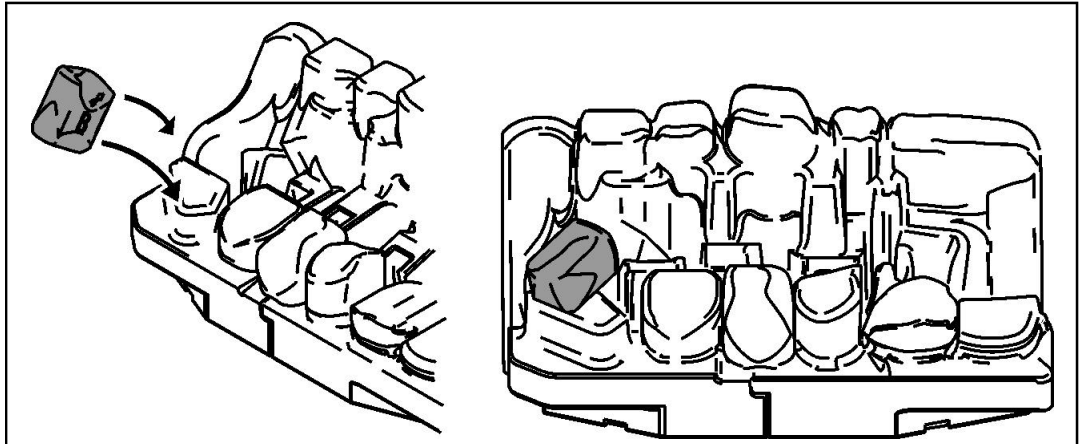

Figure 4. Second row "Coal B"
**6.** Hold coal 'B' upright with the arrow pointing to the top. Locate coal 'B' as shown in figure 4.